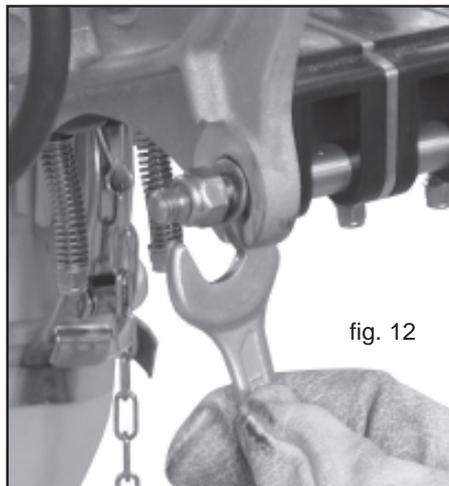

fig. 12
- 2) until it is becomes possible to push out the discs fitted inside, remove them from their seats (Fig. 12) and move the axles.